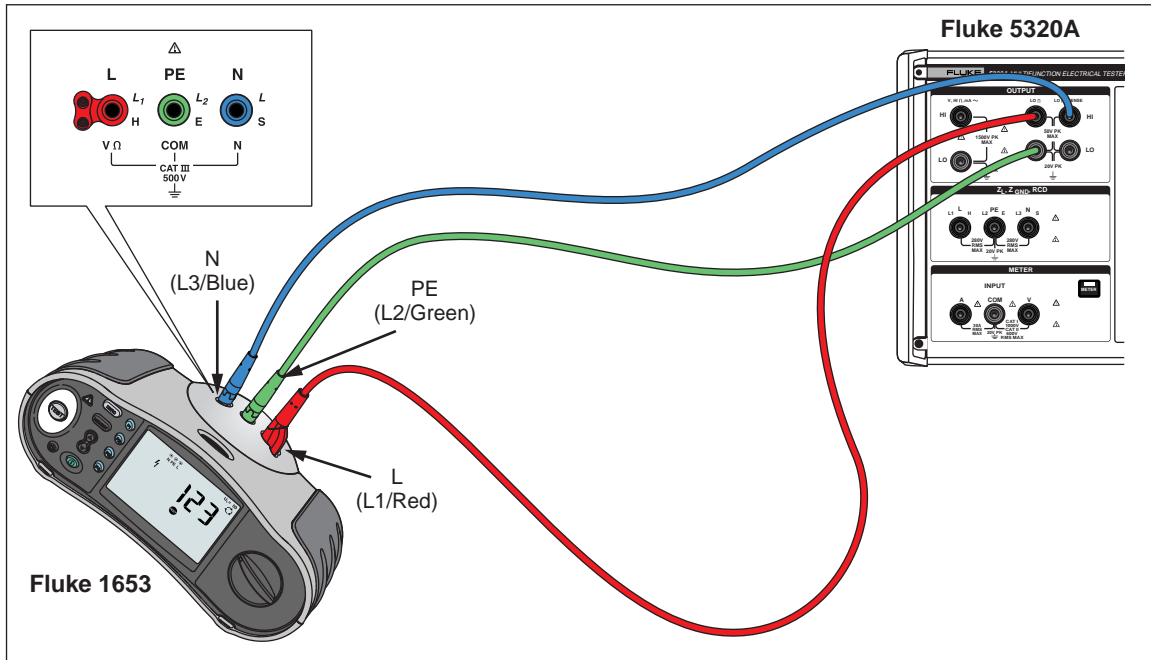

Figure 7-2. Earth Resistance Calibration Connections
1. Using Figure 7-2 for a reference, connect the UUT to the Calibrator's **LO Ω HI** and **LO** terminals as well as the **LO Ω Sense HI** terminal.